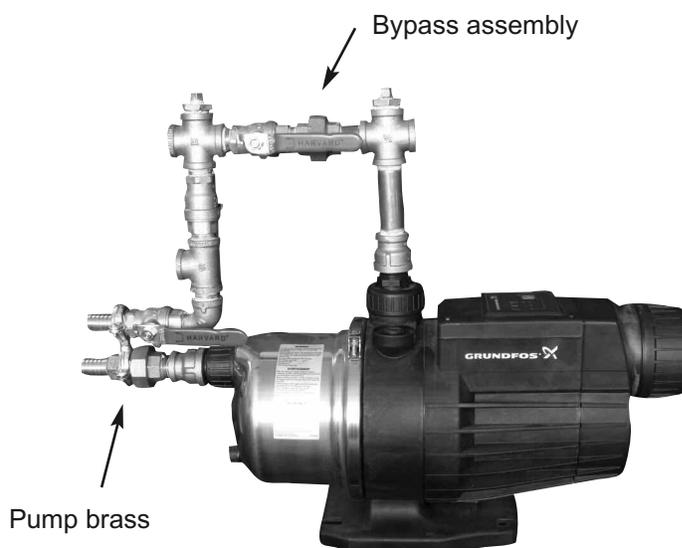

Figure 2
1. Attach bypass assembly to jet pump (See Figure 2).*